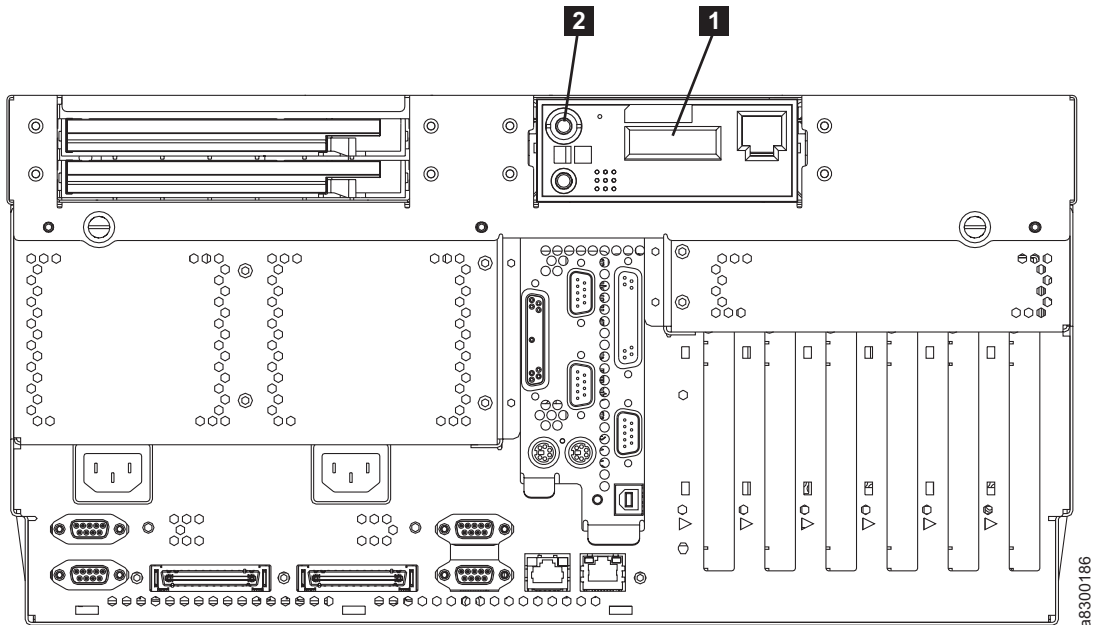

Figure 13. Rear View of 3592 J70 Tape Controller
2. The tape controller performs a self-test when power is applied to the frame or rack. When the self-test completes, the tape controller's display panel (**1** in Figure 13) displays **OK**, indicating that the tape controller is in standby mode.
3. When OK appears in the tape controller's display panel (**1** in Figure 13), press the Power ON/OFF button (**2** in Figure 13).
2. Press and hold down the Power ON/OFF button (**2** in Figure 13 on page 33) for approximately 2 seconds.
4. The 3592 J70 Tape Controller is powered down to standby mode when **OK** appears in the tape controller's display panel (**1** in Figure 13 on page 33).